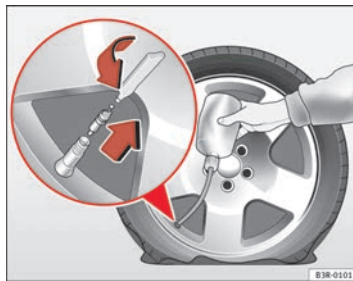

Fig. 199 Repairing a tyre
- Take the valve cap off the tyre valve and use the enclosed valve insert tool to unscrew the valve insert ⇒ page 263, fig. 199.